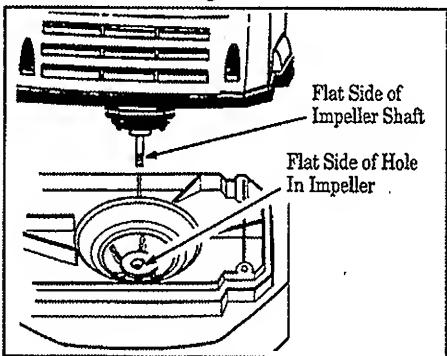

Figure 19
- Align the hole in the impeller with impeller shaft, making sure flat sides are aligned. Figure 19.